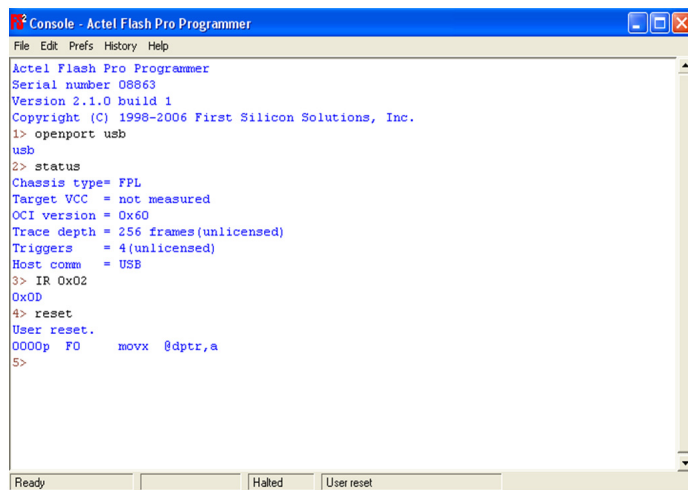

Figure 6 • Basic Commands in ISA-Actel51 Console
Step 6: In FS2 console, execute the basic commands such as status, IR 0x02, and reset to make sure the FS2 console is able to interact with Core8051s via Flashpro3, as shown in Figure 6 on page 8.